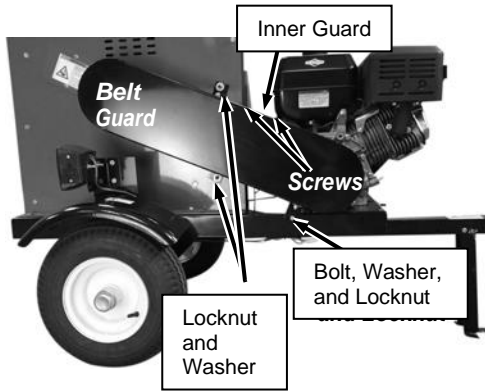

Figure 37
1. Remove the two Screws from the Inner Guard using a 5/16" Wrench or Flathead Screwdriver and remove the Inner Guard (**Figure 37**).